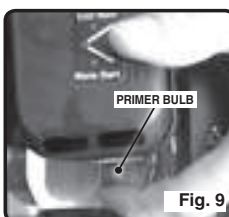

Fig. 9
4. Press the Primer Bulb slowly 6 times (see Fig. 9).